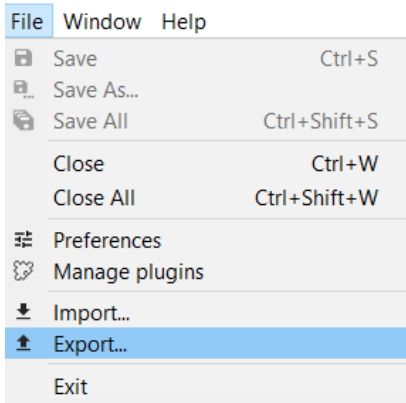

Figure 29: Exporting as EcoSpold1 and EcoSpold2, step 1
- To export processes as excel files begin by activating the database from which data should be exported. Then select "File" → "Export" as illustrated in Figure 29. The export wizard will pop up. Select "Processes" in the Excel folder and click "Next". Then select the location where the data should be saved as well as the processes to be saved and click "Finish". Each process will be saved as an individual excel file.